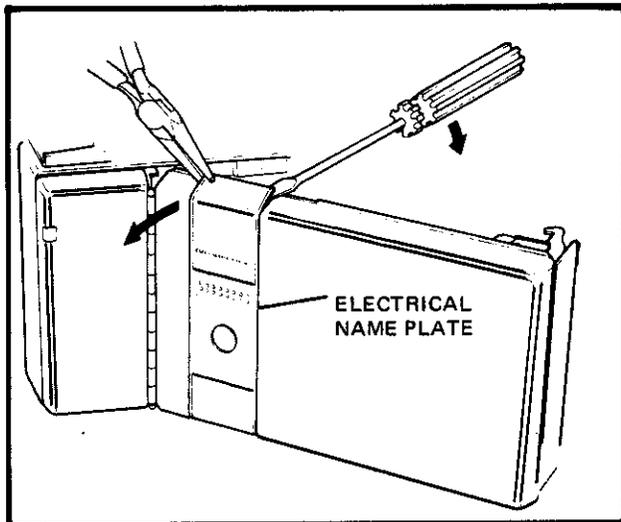

FIG. 5.35 FREEING THE ELECTRICAL NAMEPLATE
- Remove the electrical nameplate: Carefully pry one edge of the nameplate loose using a fine blade screwdriver. Peel the nameplate free of the rear door using pliers (Figure 5-35).